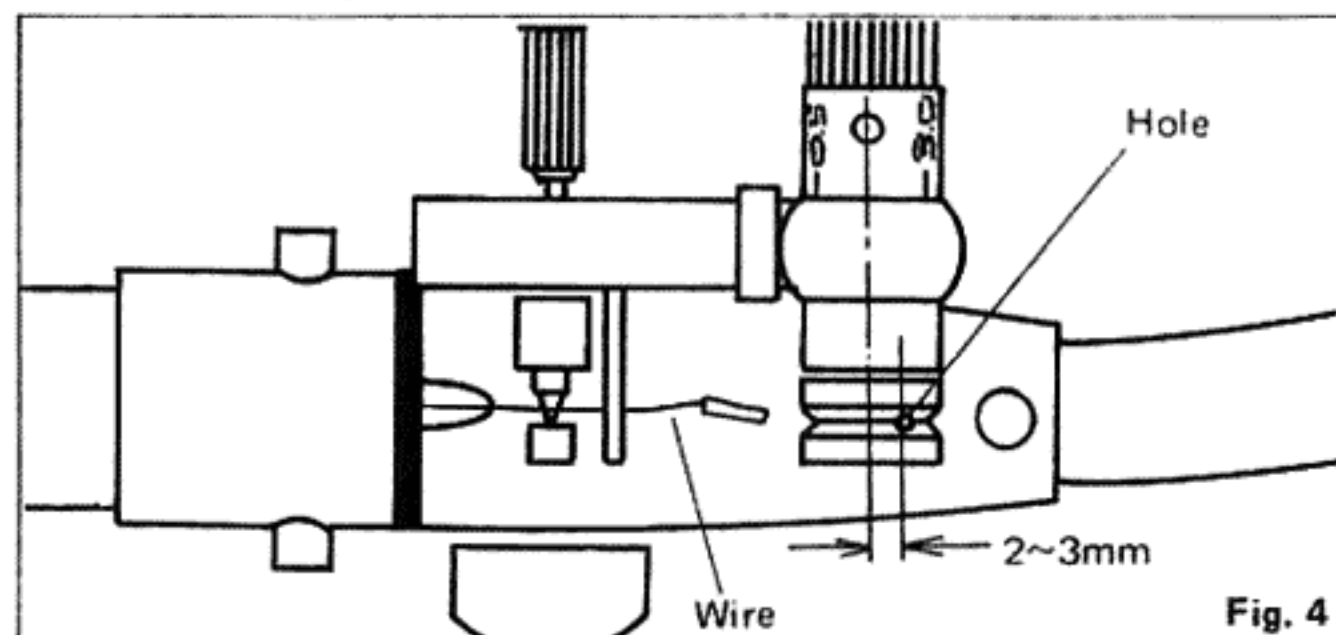

Fig. 4
- 16) Align the tracking force adjustment reel and the tracking force dial as showing Fig 4.